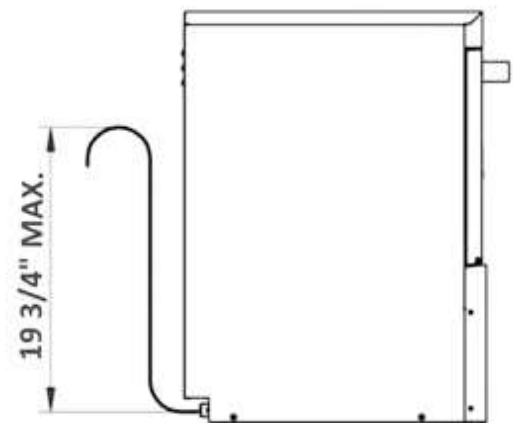

Fig. 3: Installation of Drainage at a Height Using Drainage Pump
4. If the drainage pipe is not lower than the outlet, the unit will still drain properly with the incorporated drainage pump as long as the drainage outlet is mounted at a maximum height of 19 3/4" (**Fig. 3**).